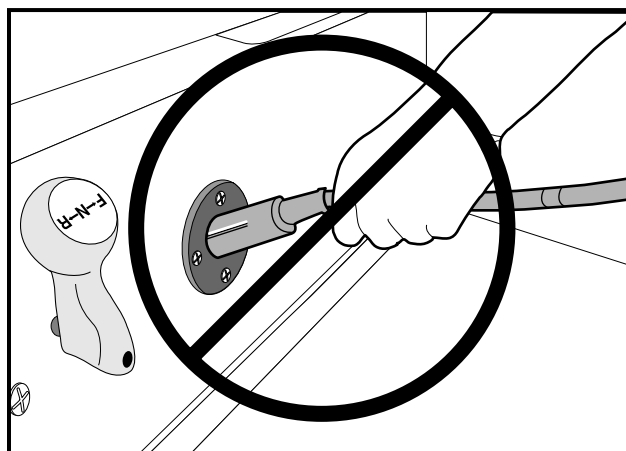

Figure 14 Incorrect Insertion of Charger DC Plug
- DO NOT PULL ON THE DC CORD (**FIGURE 14, PAGE 23**). DO NOT TWIST, ROCK OR BEND THE PLUG. TO DISCONNECT THE CHARGER PLUG FROM THE VEHICLE RECEPTACLE, GRASP THE PLUG BY THE HANDLE AND PULL THE PLUG STRAIGHT OUT OF THE RECEPTACLE.
- FAILURE TO FOLLOW THESE INSTRUCTIONS COULD RESULT IN DAMAGE TO THE CHARGER CORD, THE PLUG, AND (OR) THE VEHICLE RECEPTACLE.